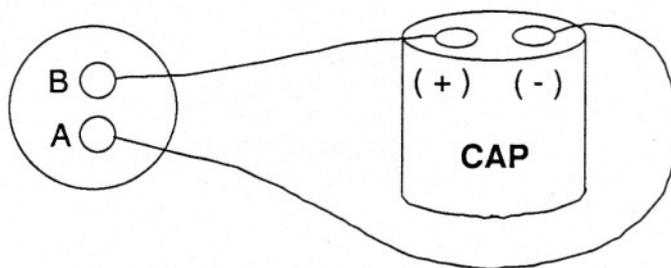

FIGURE 4-1.
- B. Using one of the battery charging cables and the clip jumpers, attach the capacitor to one of the charger outputs as if it were a battery; i.e., pin "A" to minus, pin "B" to plus. See Figure 4-1.